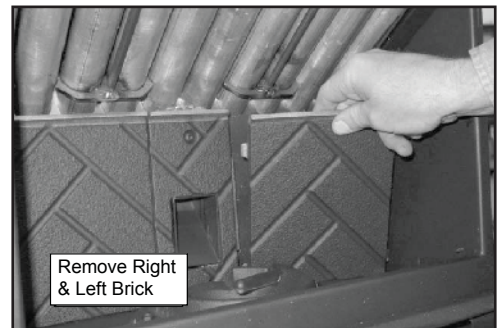

Figure 23.3
3. The top baffle must be removed before you can remove the right and left brick. Remove the right brick by holding top lip of brick and lifting up, then push outside edge back. Slide brick to the right until it is flush with the firebox. Rotate the inside edge of the brick forward and remove brick. Repeat for left brick. **Figure 23.3.**